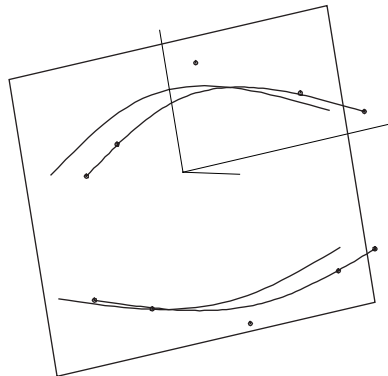

Fig. 13
- 4 **Select the lower curve ('xcv14') and the plane**, and make another **Projected Curve**. **OK** to accept all defaults. (Fig. 13).